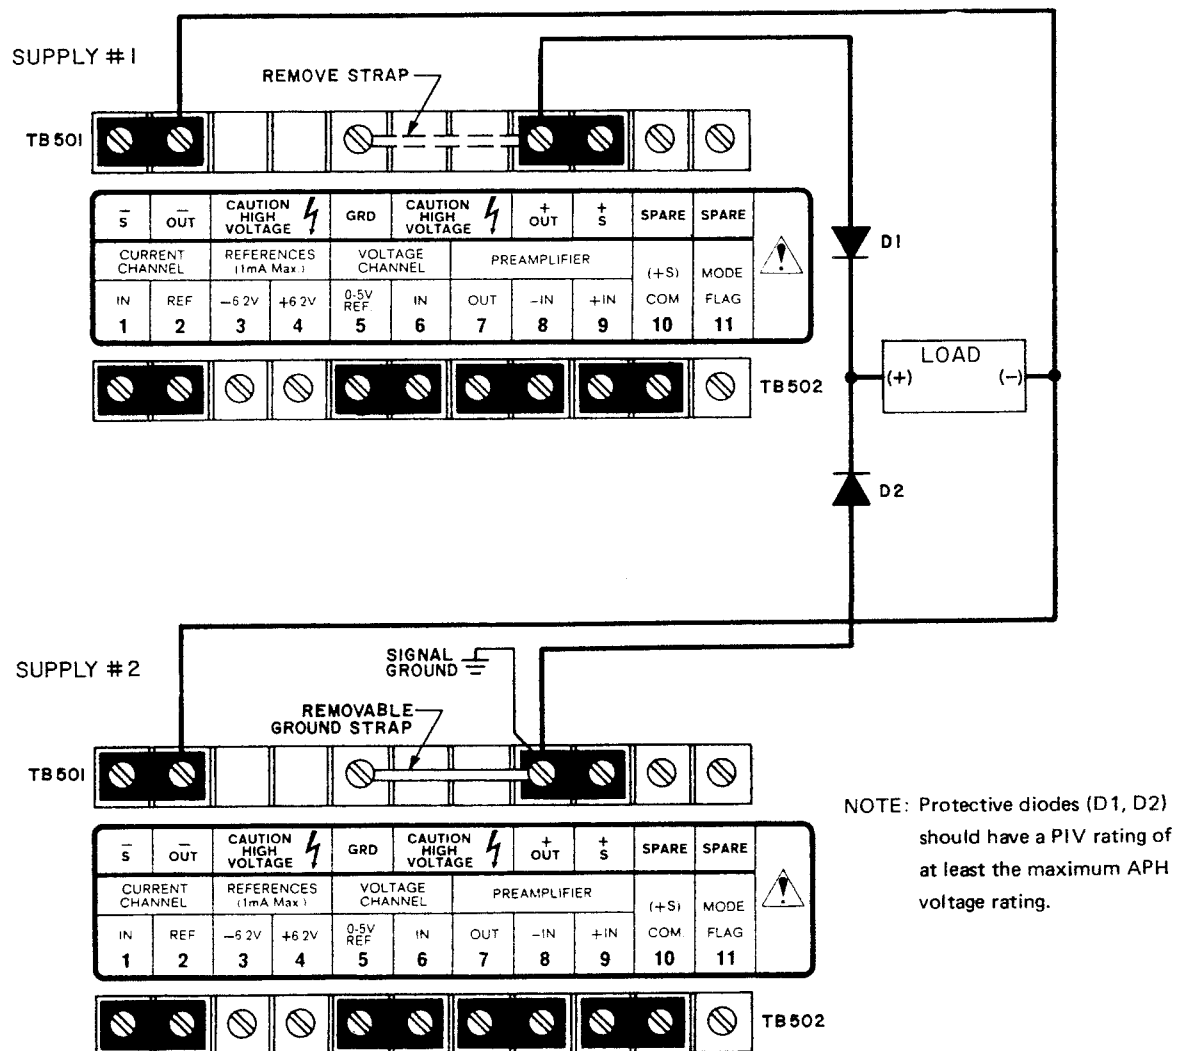

FIG. 3-13 CONNECTIONS FOR "AUTOMATIC" PARALLEL OPERATION (TWO SUPPLIES).
- 3) Make all load interconnections as shown in the connection diagram (refer to FIG. 3-13).